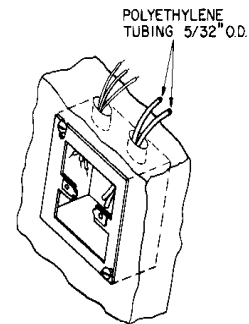

Fig. 4
5. Assemble wallplate adapter to wallbox using #8-32 screws supplied. Wallplate adapter must be aligned with sides of box (see Fig. 4).